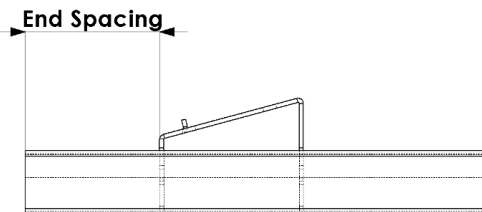

Figure 11 - End Spacing
- 1 Mark the *End Spacing* at the West edge of a Rail (Figure 11).